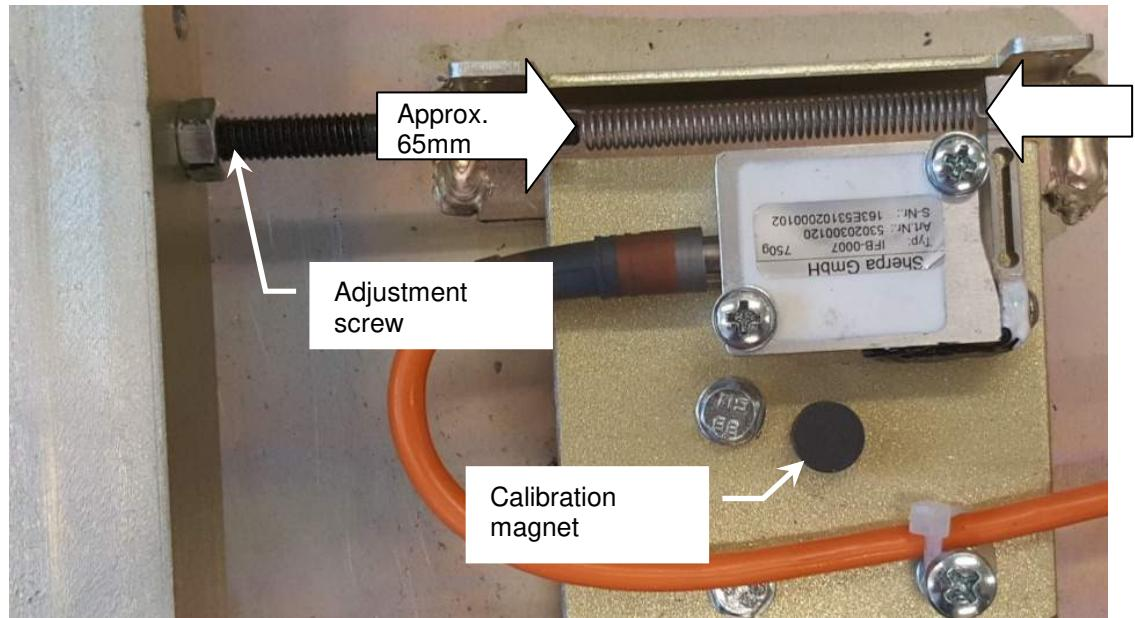

Figure 1: Adjusting the sensor
- When the plate is in the idle position, the tension spring for the attachment points on both sides must be adjusted to a length of approximately 65 mm using the adjustment screw. (**Figure 1**)